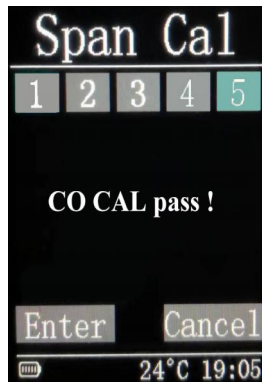

fig 29
v. After completed, it displays cal results, as shown in Fig.29.